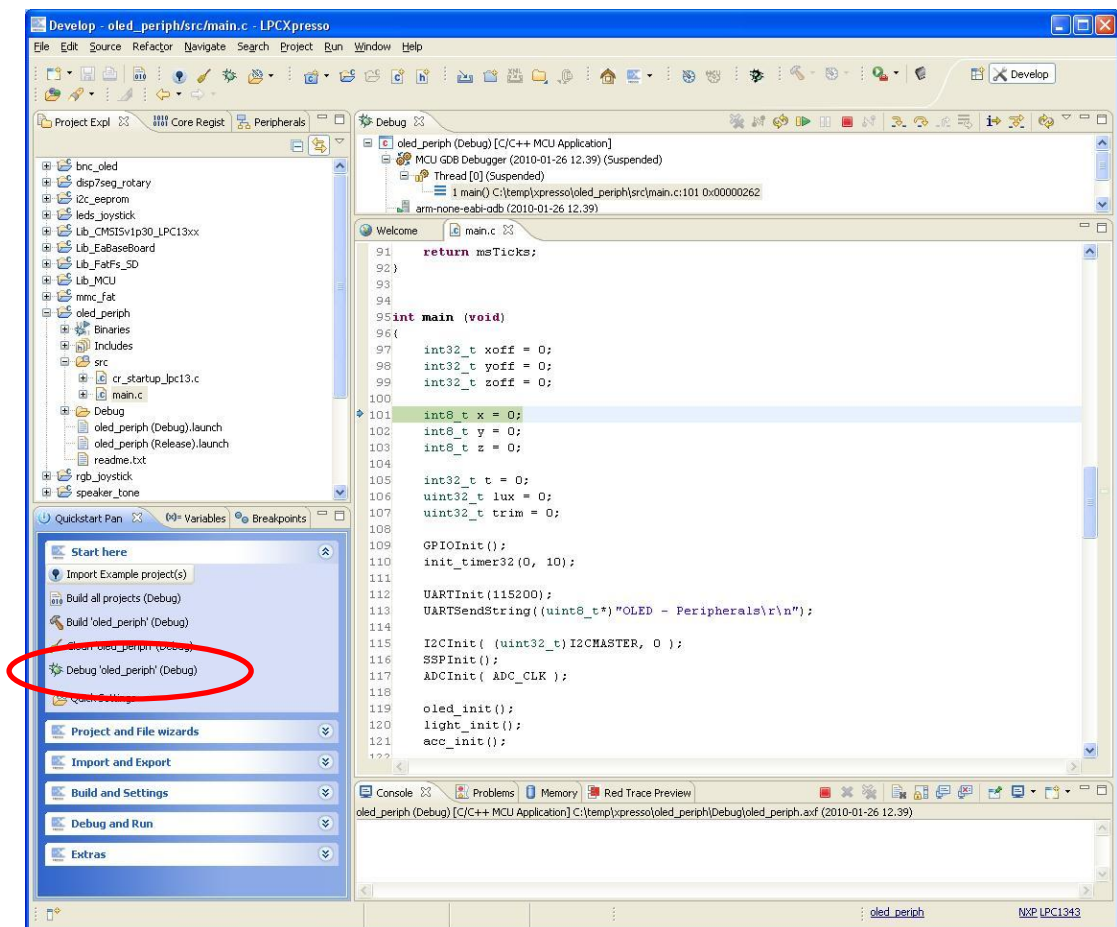

Figure 15 – LPCXpresso Debugging View
3. Click the Debug button in the Quickstart panel, see Figure 15. When the program has been downloaded, execution will stop at the first breakpoint which is the main function.